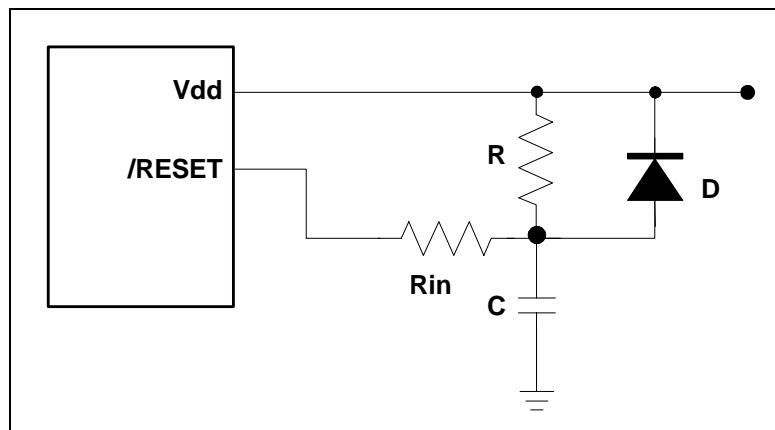

Figure 6-15 External Power-up Reset Circuit
The circuit shown in Figure 6-15 implements an external RC that produces a reset pulse. The pulse width (time constant) should be kept long enough for Vdd to reach minimum operation voltage. This circuit is used when the power supply has slow rise time. Because the current leakage from the /RESET pin is $\pm 5 \mu\text{A}$, it is recommended that R should not be greater than 40K. In this way, the /RESET pin voltage is held below 0.2V. The diode (D) acts as a short circuit at the moment of power down.